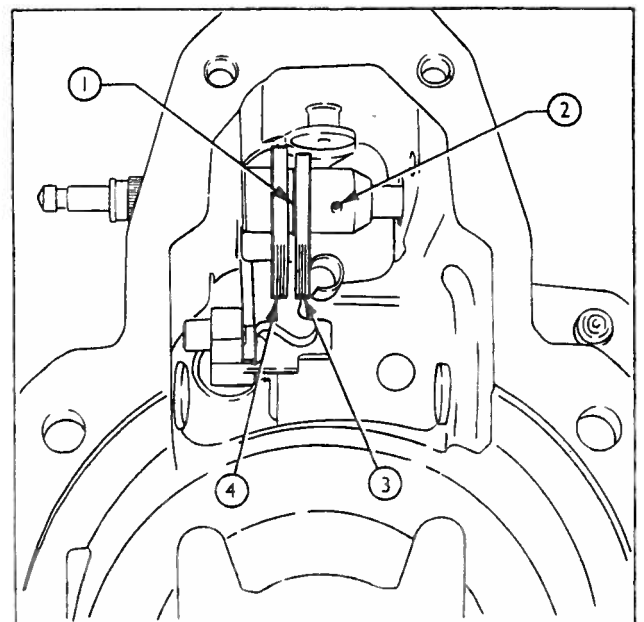

Fig. 19 Internal view of pump from drive end
6. Align the holes in the maximum fuel stop bell crank and the excess fuel device spindle and carefully tap the tension pin into position, see Fig. 19.